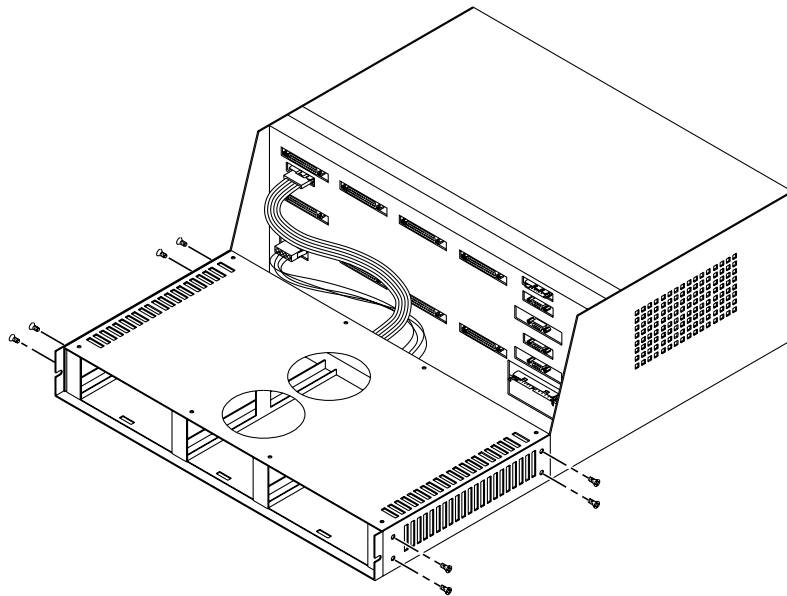

FIGURE 7-6 Removing the Power Supply Housing Screws
- a. **Remove the eight screws from the side of the chassis** (FIGURE 7-6).
- c. Replace the eight mounting screws (FIGURE 7-6).**